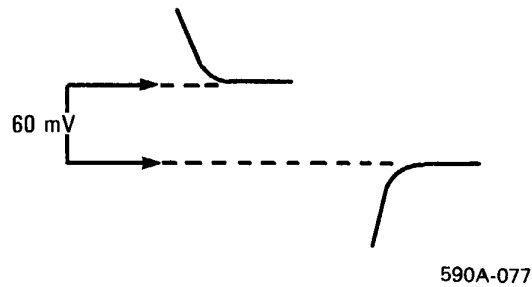

Figure 2. Dead Zone Adjustment Waveform
- e. Adjust A18R140 so that the separation between the attack and decay waveforms is 60 mV \pm 5 mV, see figure 2.